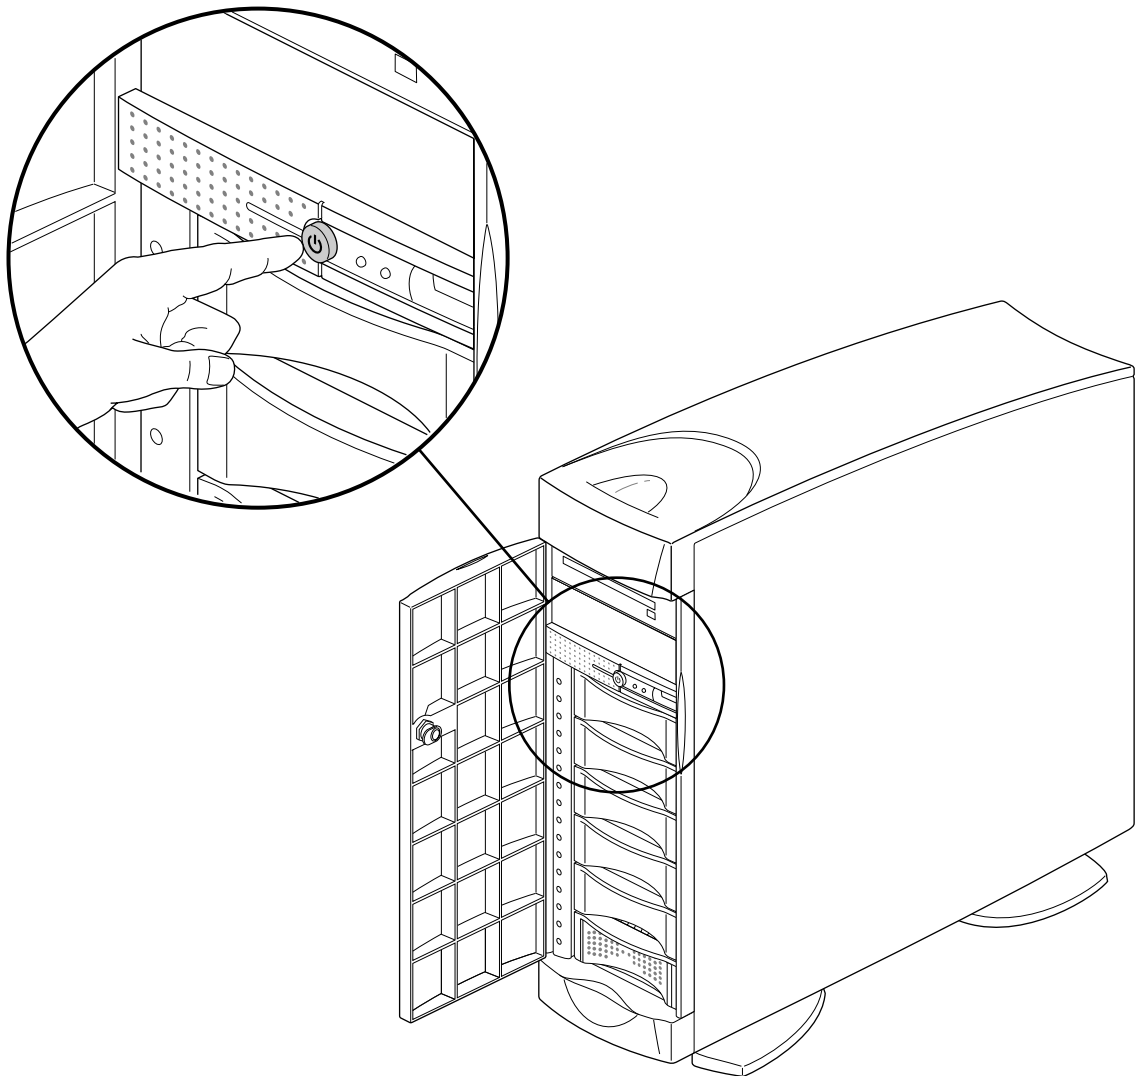

Figure 4-3 Turning On the Front Power Switch
2. At the front of the system, press the power button, as shown in Figure 4-3.